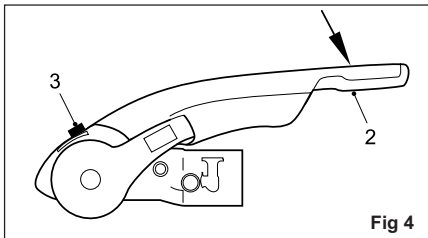

Fig 4
**WARNING: The coupling is correctly engaged when the green edge of the safety indicator button is visible (Fig. 4/Item 3).**
- To operate the Stabiliser (once coupled to the towball), simple press the stabiliser lever down as far as it will go (Fig. 4/Item 2).